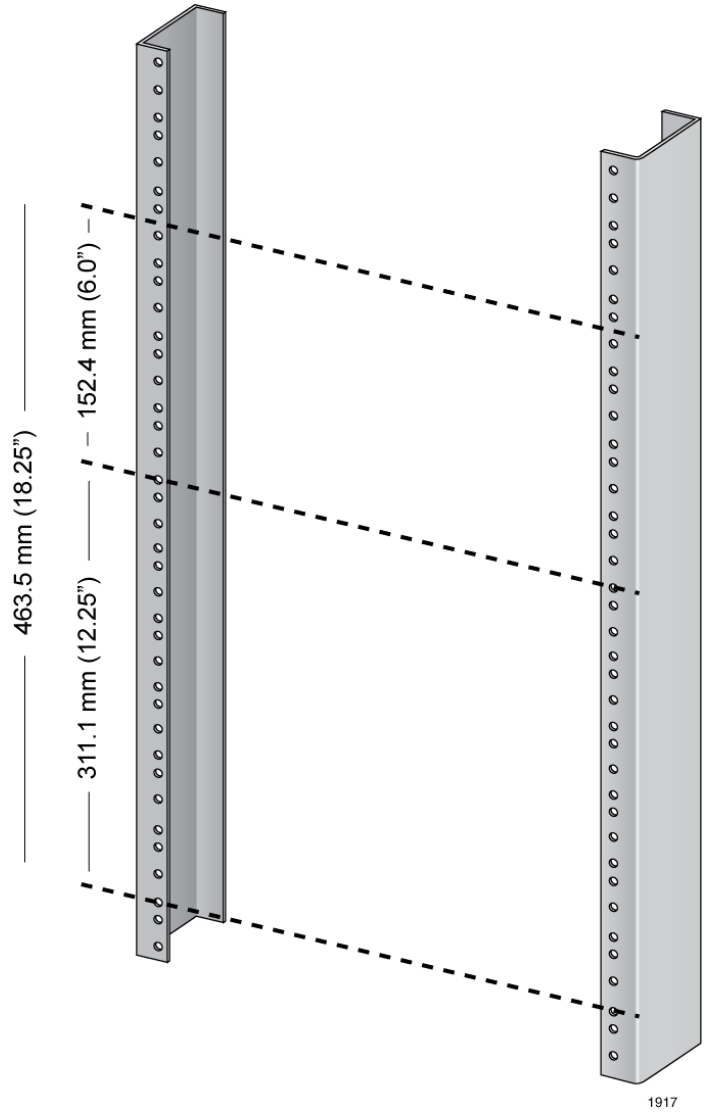

Figure 42. Reserving Vertical Rack Space
1. Reserve 311.1 mm (12.25") of vertical rack space for the installation of the AT-SBx8112 Chassis, as shown in Figure 42 on page 116.